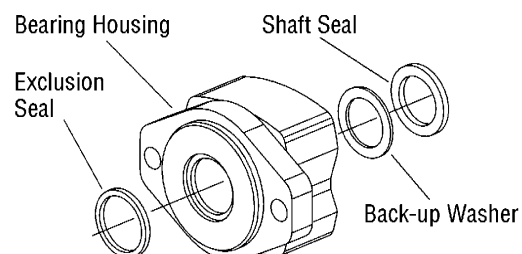

Figure 10
- 20 Use a small screwdriver to remove shaft seal, back-up washer and exclusion seal from bearing housing, see Figure 10. Do not damage bore of housing.